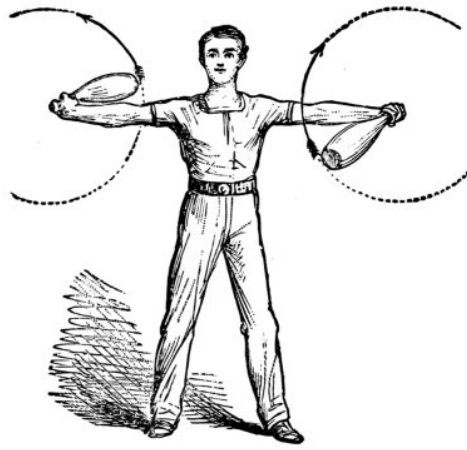

Fig. 16
*Exercise 14* (Fig. 16).—This is purely wrist-work. The arms are extended straight out on each side, and the clubs passed alternately from the wrists in the front and rear of each arm, describing circles on either side. At the same time that one club is swinging round behind the right arm, the other is swinging in front of the left, and *vice versâ*. This exercise causes the wrists to become very pliable.